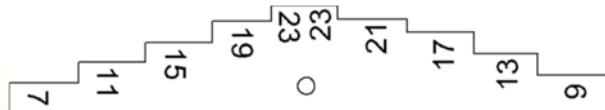
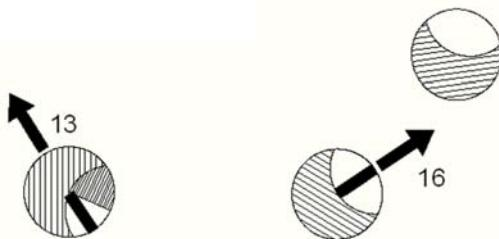

FIGURE 12, Calibration Gauge
FIGURE 13, Spreader Setting
- Open the Hopper and using the Calibration Gage (FIGURE 12) provided with the machine as shown in FIGURE 13, set the center hole opening to **16**. Position the Rate Adjustment Knob against the Hopper Lever and tighten the knob.
- Without changing the Rate Adjustment Knob setting, open the Third-hole and insert the Calibration Gage, orientated as shown in FIGURE 13, in the Third-hole.